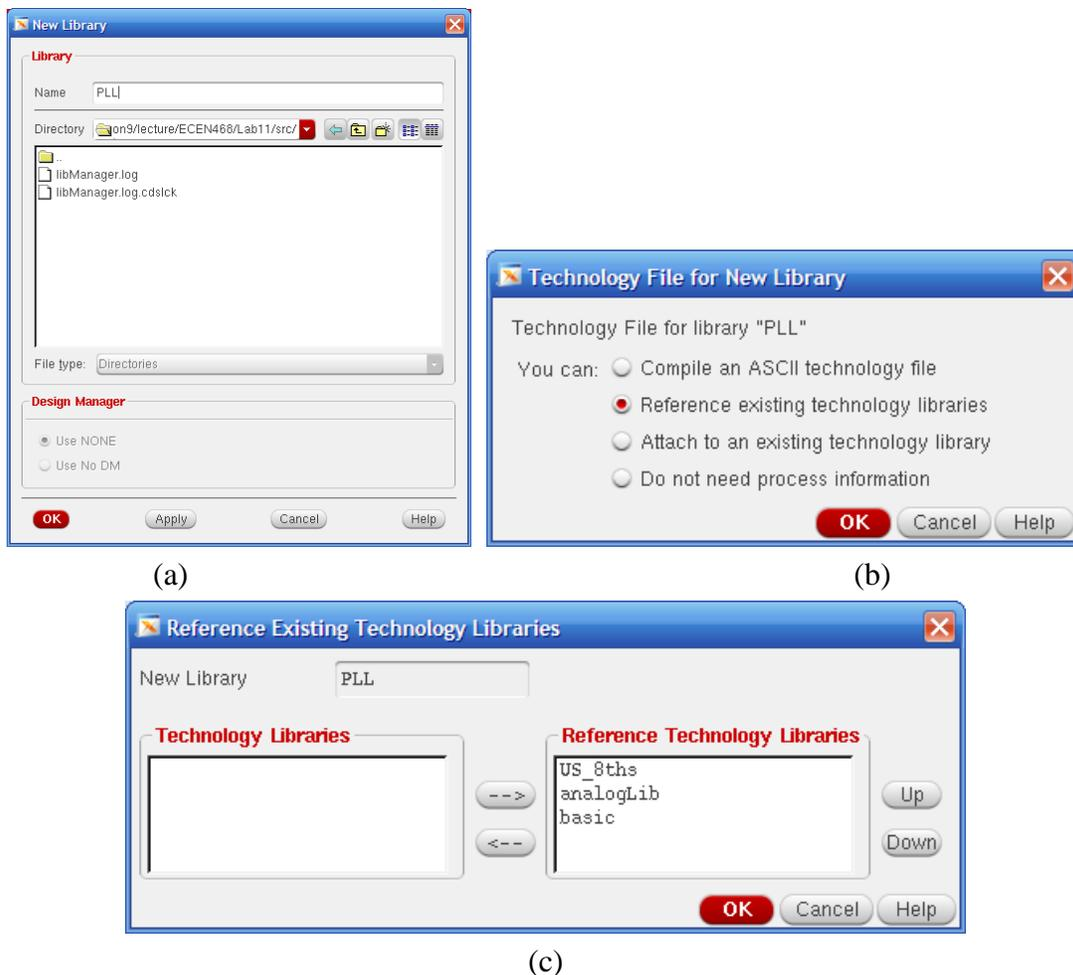

Figure 6 Creating a Library
You will create a library which will contains cells such as Phase Frequency Detector(PFD), Voltage Controlled Oscillator(VCO), Frequency Divider(FD) and top module. From the Library Manager, select **File – New – Library**. In the New Library window (Figure 6(a)), write **PLL** as a name of the library and click **OK**. And, you will use reference existing technology libraries as a technology file as shown in Figure 6(b). In the reference existing technology libraries window, move all technology libraries in left box to right box (Figure 6(c)). Then, you will see **PLL** library in the Library section in Library Manager.